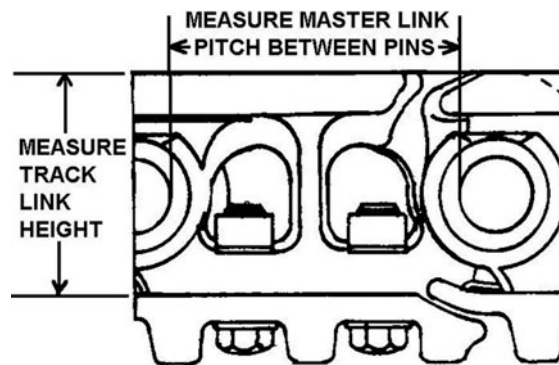

Figure 1-59. Measuring the master-link pin pitch and track-link height.
2. Measure the master-link pin pitch between the rear edge of the pin in front of the master pin to the front edge of the master pin with a ruler or tape measure as shown in figure 1-59.